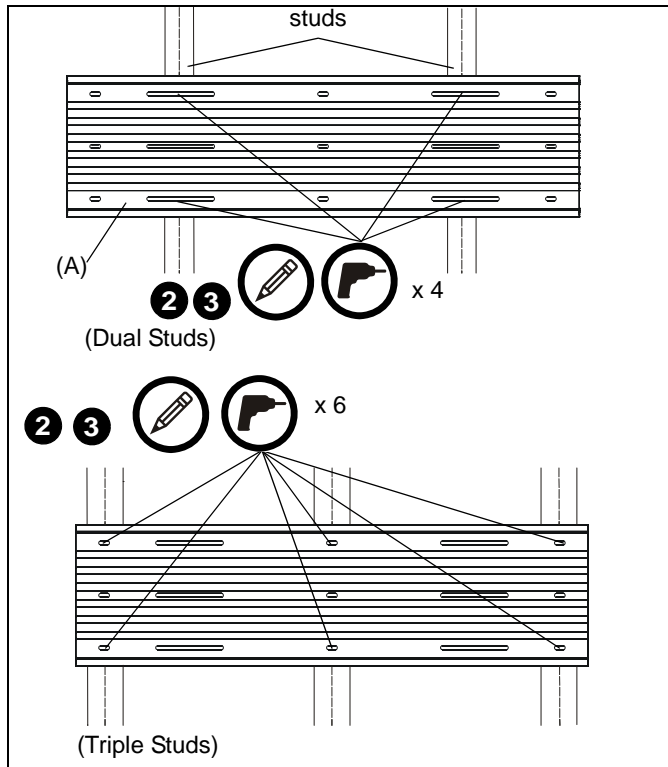

Figure 8
2. Draw a vertical line down the center of the studs to be used. (See Figure 8)
4. Using wall track accessory (A) as a template, mark location of three mounting holes on wall. Make sure wall track accessory is level. (See Figure 8)
5. Drill 7/64" holes at each marked location. (See Figure 8)
3. Draw a vertical line down the center of the studs to be used. (See Figure 8)
5. Drill 1/2" holes at each marked location. (See Figure 8)